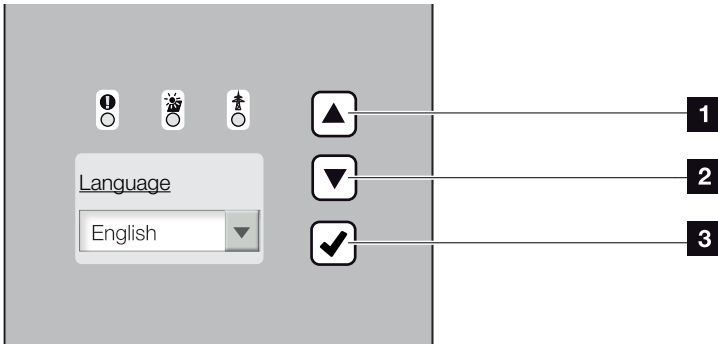

Fig. 42: Display on the inverter
1. Properly fasten all cables to the cable tray with a cable tie.  **Fig. 42**